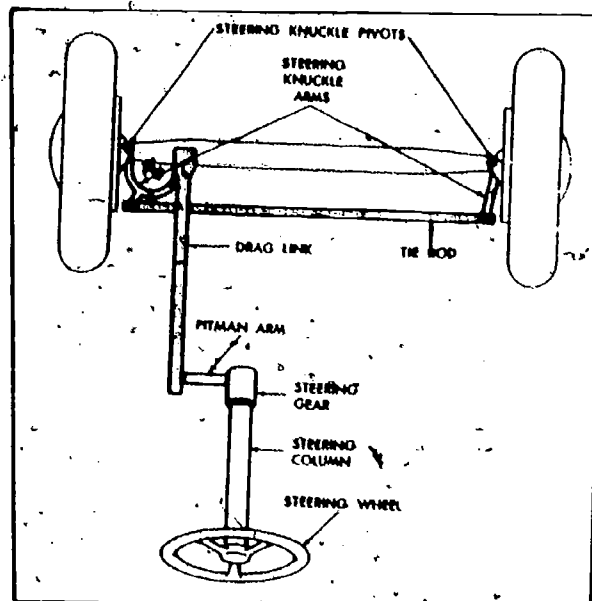

Fig 4-13. Mechanical steering mechanism.
b. Mechanical. Figure 4-13 is a diagram of a mechanical steering mechanism. The operator turns the steering wheel which is connected to a worm in the steering assembly. The worm rotates a gear connected to a shaft and pitman arm. As the arm moves, other attached linkage causes the spindles and wheels to turn right or left. The steering knuckle arms are rigidly attached to the spindles.